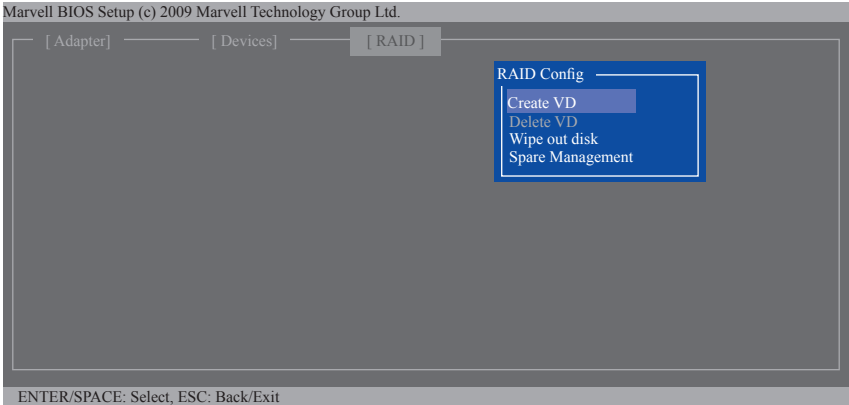

Figure 6
Step 1: On the main screen, press <Enter> on the **RAID** tab. Then the **RAID Config** menu appears (Figure 6). Press <Enter> on the **Create VD** item.